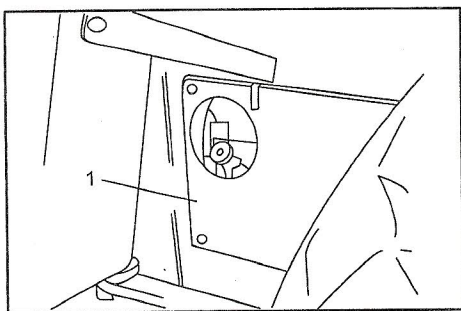

Fig. 05-17
- Remove the cover (1) at one side of the rear frame (See Fig. 05-17).